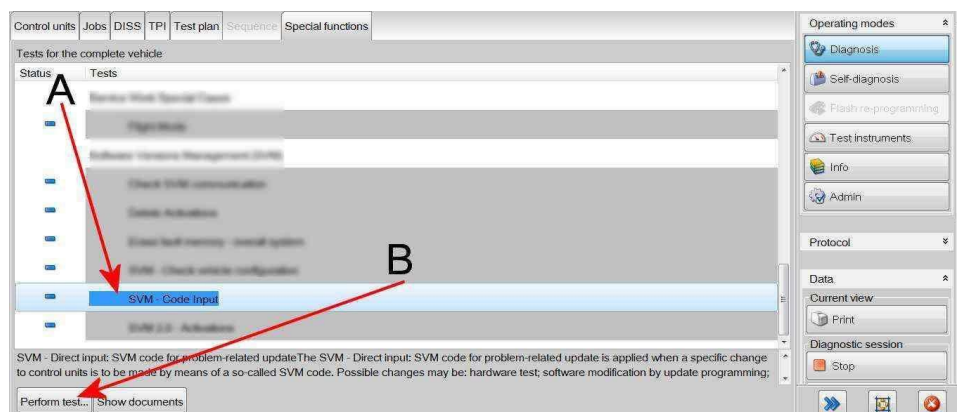

Figure 1
- Within the Special functions tab - Select SVM Problem related Hardware/Software update then select Perform test (Figure 1).
- Within the Special functions tab select SVM Problem related Hardware/Software update then select Perform test (Refer back to Figure 1)